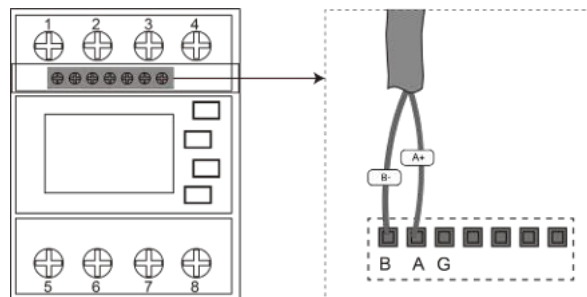

Fig. 41. RS485 cable connect to the Smart-Meter
1. Strip the insulation of the other side from the network cable and screw copper wire to the corresponding terminal of the Smart-Meter. [  PH0  0.7Nm]. (See Fig. 41).